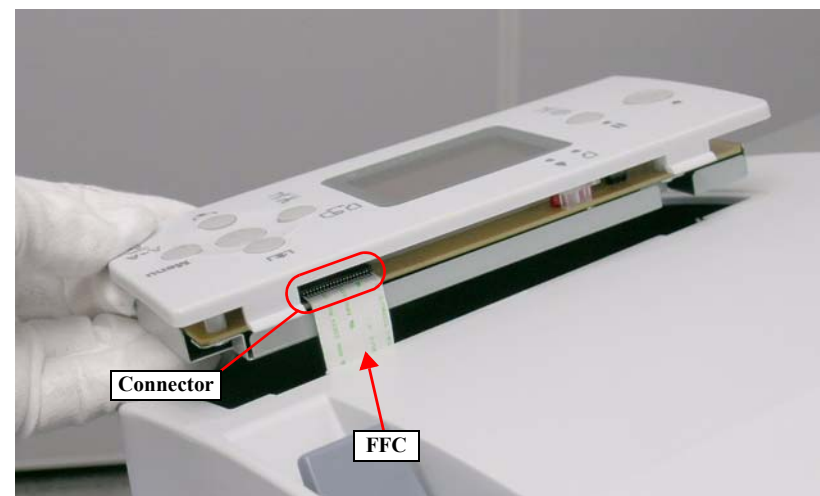

Figure 4-17. Removing the PANEL ASSY.
3. Disconnect the FFC from the PANEL ASSY. See Figure 4-17.